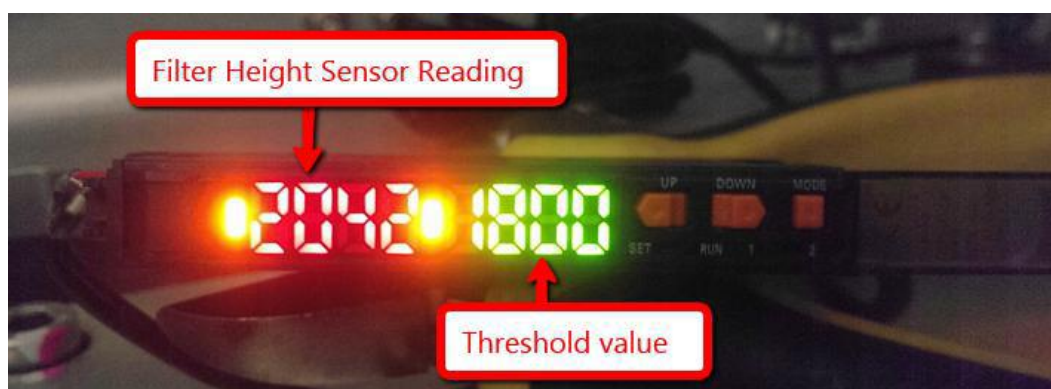

Figure 9 Filter Height Sensor
9. Record filter height sensor intensity reading at 10.5 mm & 10.0 mm .May refer to Figure 9